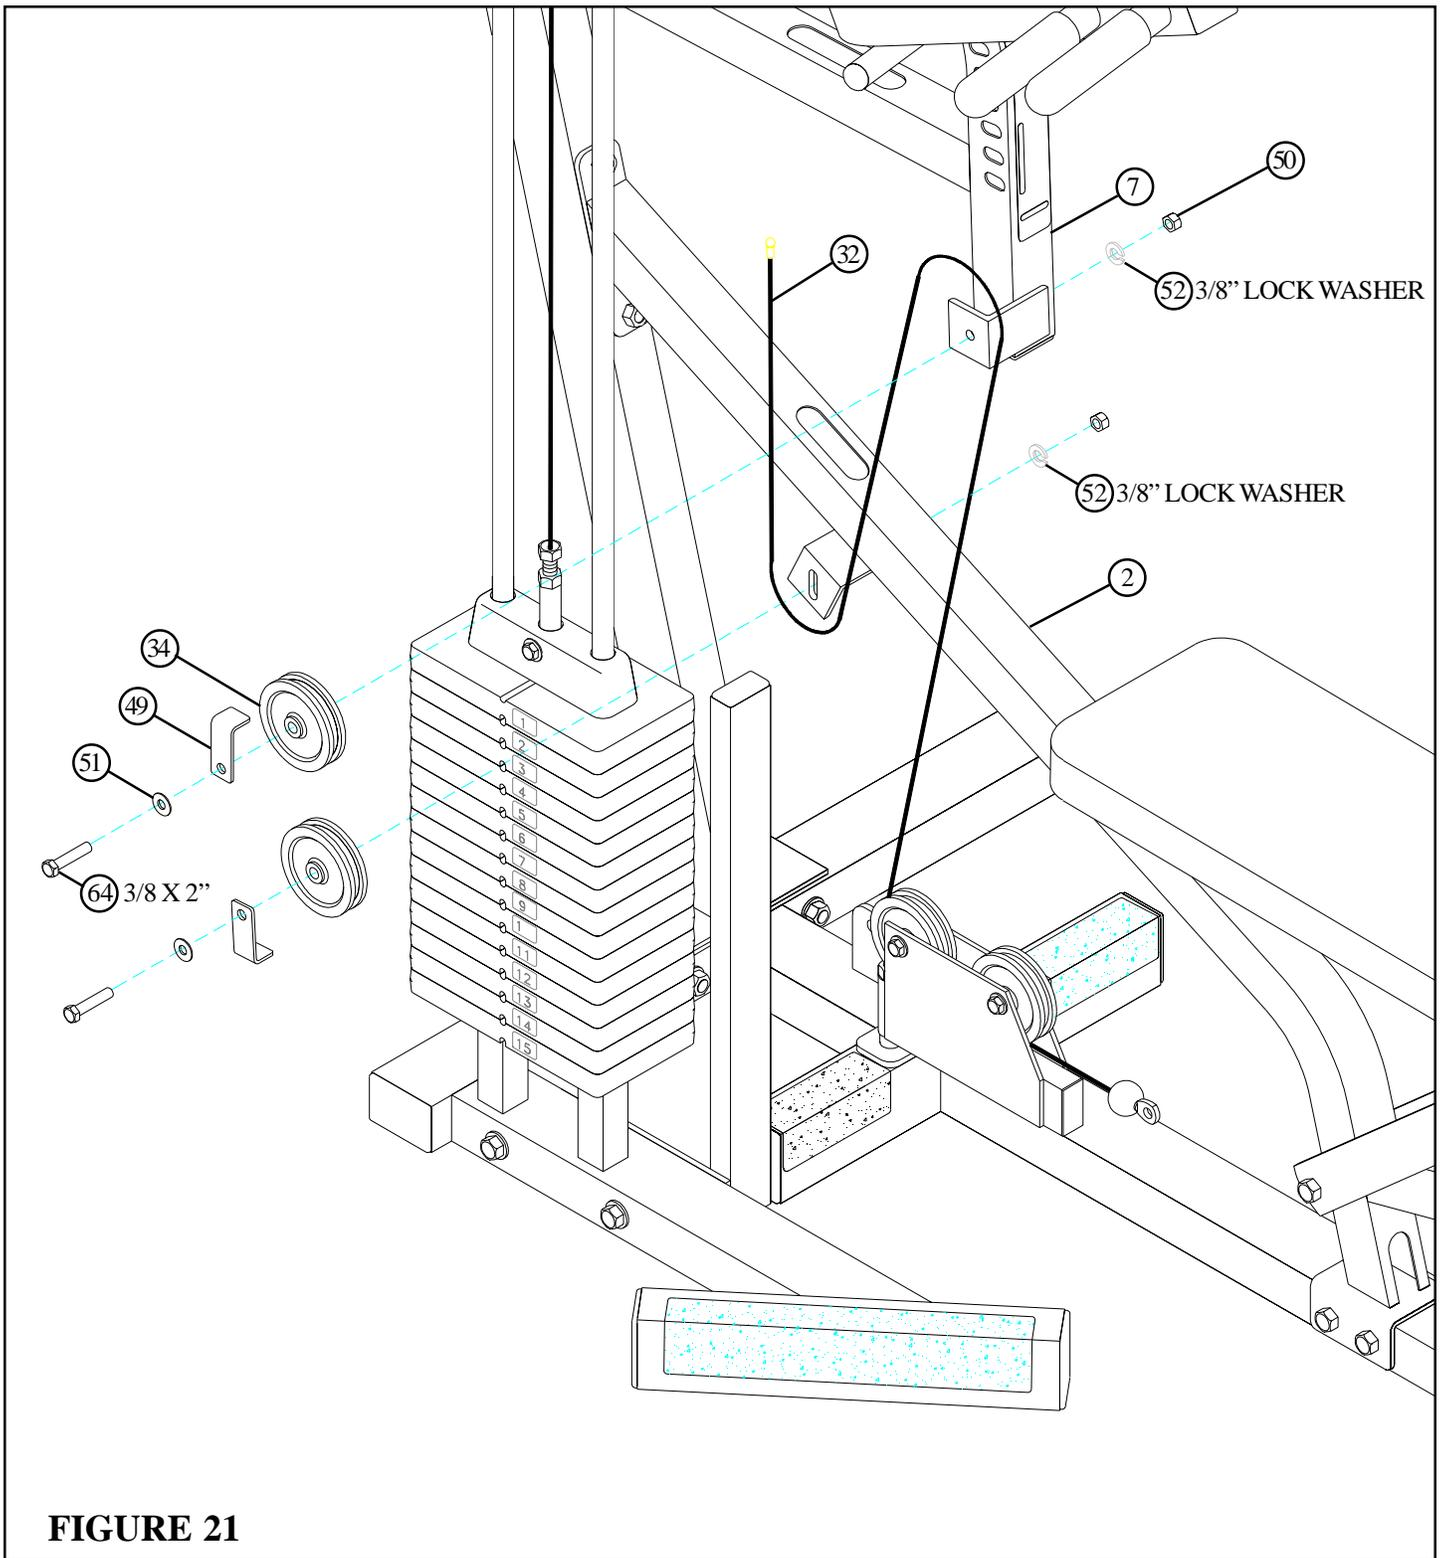

**FIGURE 20**
- **SECURELY** assemble two 3-1/2" PULLEYS (34) to the SWIVEL PULLEY BRACKET (13) using two 3/8 X 2" BOLTS (64), four 3/8" WASHERS (51) and two 3/8" LOCK NUTS (50) as shown in FIGURE 20.
- Route the metal ball end of the SECONDARY CABLE (32) through the SWIVEL PULLEY BRACKET (13) as shown in FIGURE 20.